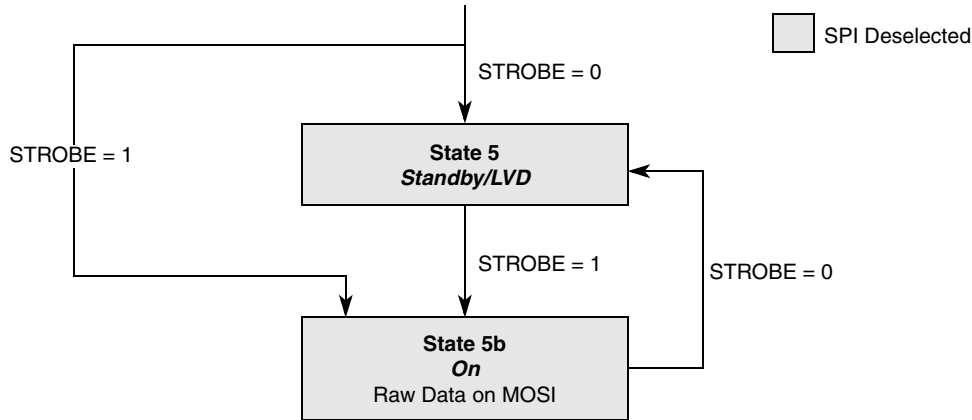

Figure 31. Receive Mode, DME = 0, SOE = 0
- External signal and internal conditions: see Figure 31 and Figure 33 for information on how to enter standby/LVD mode.
Raw received data are sent directly on the MOSI line. Figure 31 shows the state diagram.